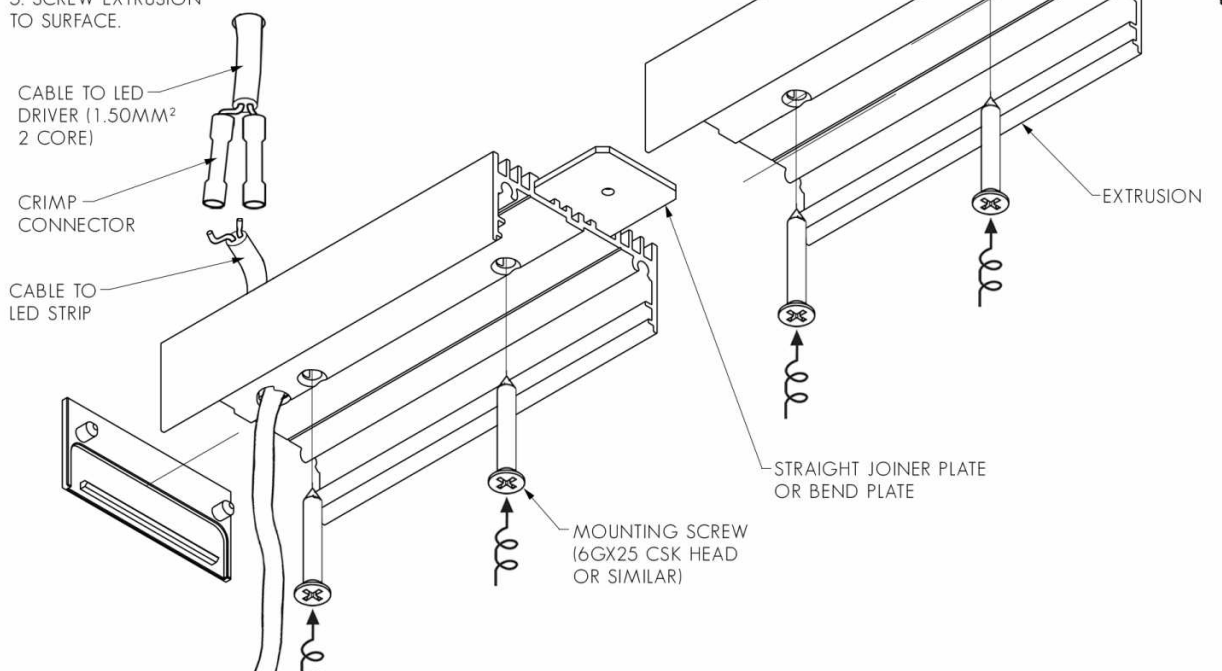

FIG. 1 - FASTEN CABLE USING CORD GRIP
1. FEED LED STRIP TAILS (OR CABLE) THROUGH HOLE IN EXTRUSION AND CLAMP USING CORD GRIP SUPPLIED. (SEE FIG. 1). DO NOT INSTALL LED STRIP AT THIS POINT.